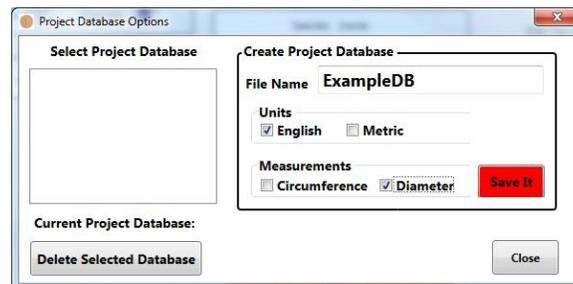

Figure 2-2. Project Database Options
1. Click the **DB Options** button to create a D-Calc database using English units and Diameter measurement. The **Project Database Options** dialog appears (Figure 2-2). Enter a name for the Project Database - ExampleDB. The database name will be entered using a popup keyboard. Click the **Save It** button to save the database. Click the **Close** button to select that database as the Current Project Database.